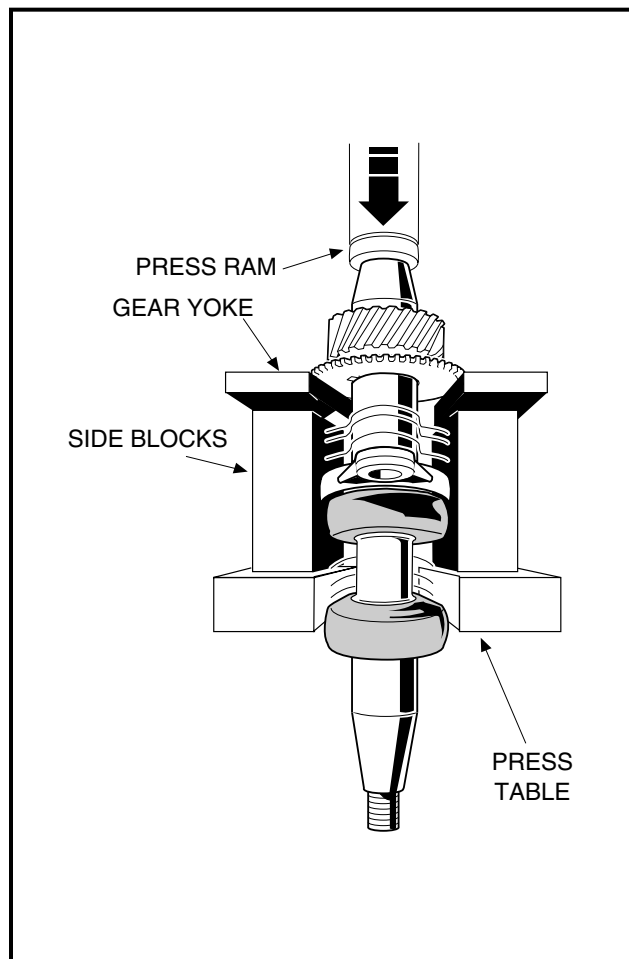

Figure 3-69 Remove Helical and Spur Gears
3. Position the gear yoke with the side blocks positioned as close to the crankshaft as possible (Figure 3-69, Page 3-33).